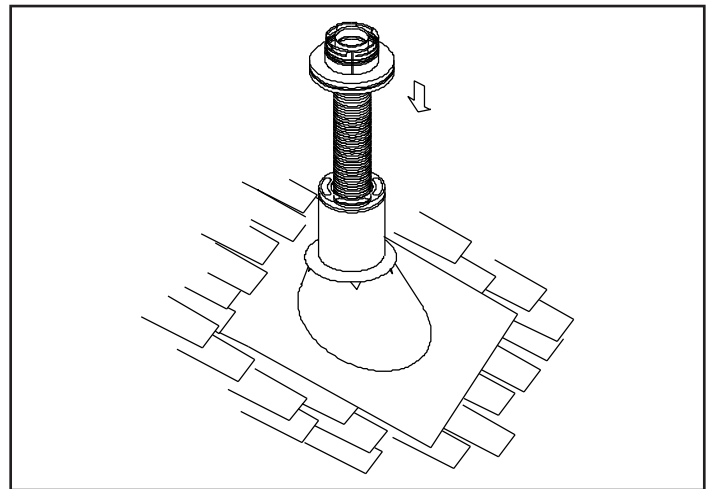
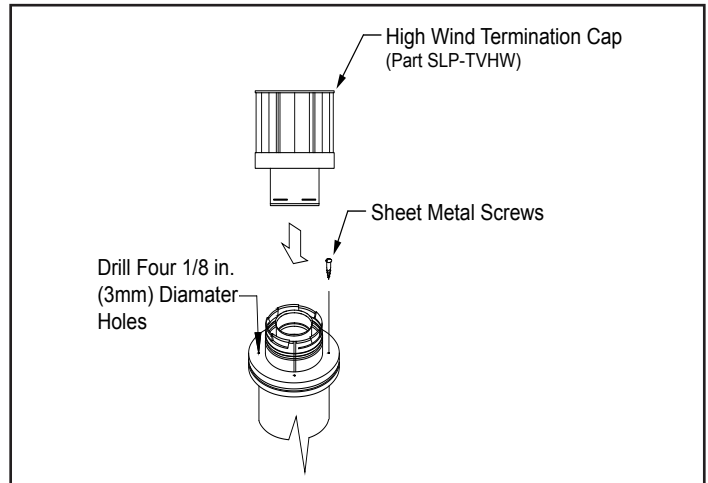

Figure 4.22
Figure 4.23
4. Pass the flex pipe down through the center of the chimney system, and center the top adaptor on the top of the chimney pipe. Drill four 1/8 in. (3mm) diameter holes through the top adaptor, and into the chimney top. Ensure that you are drilling into the metal on the chimney. Twist lock the high wind termination cap onto the top adaptor. See Figure 4.22 and Figure 4.23.